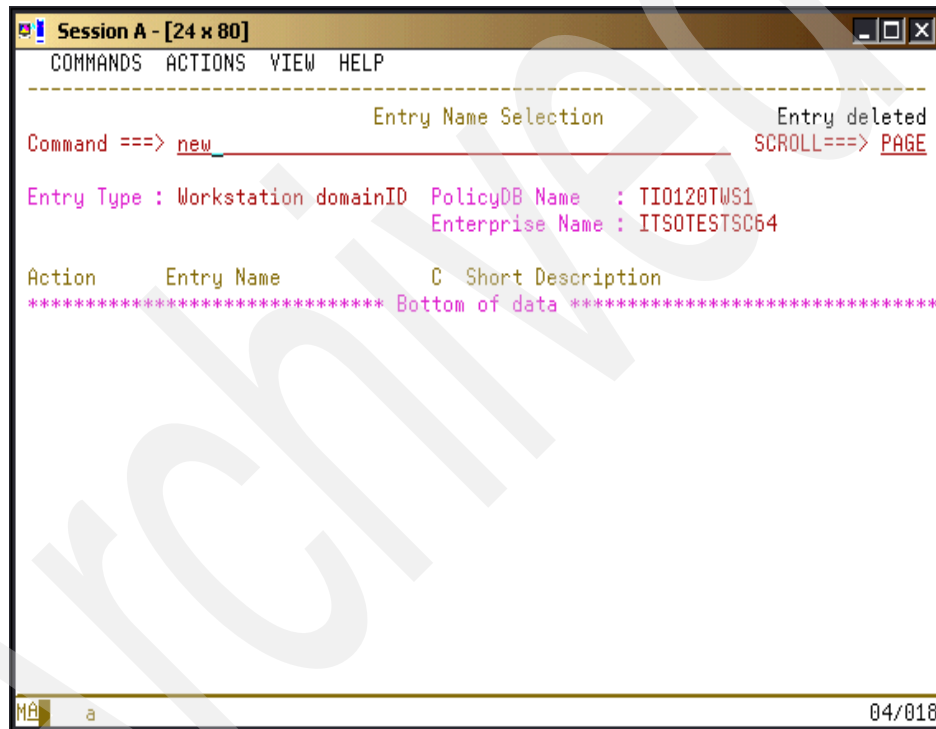

Figure 4-65 Workstation domainID Entry Name Selection panel
1. Select option **33 - ODM** Workstation domainID from the Entry type selections for Product Automation panel. The Entry Name Selection panel that is shown in Figure 4-65 displays.